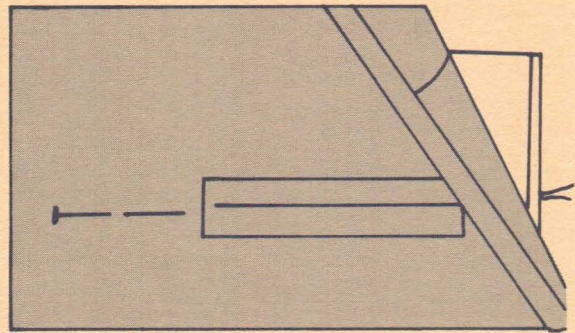

Figure 16
- Refold each piece, wrong sides together; press. Place basted piece over "window" on wrong side of garment with seam at the center. Pin at ends (Fig. 16). Turn away garment from buttonhole,